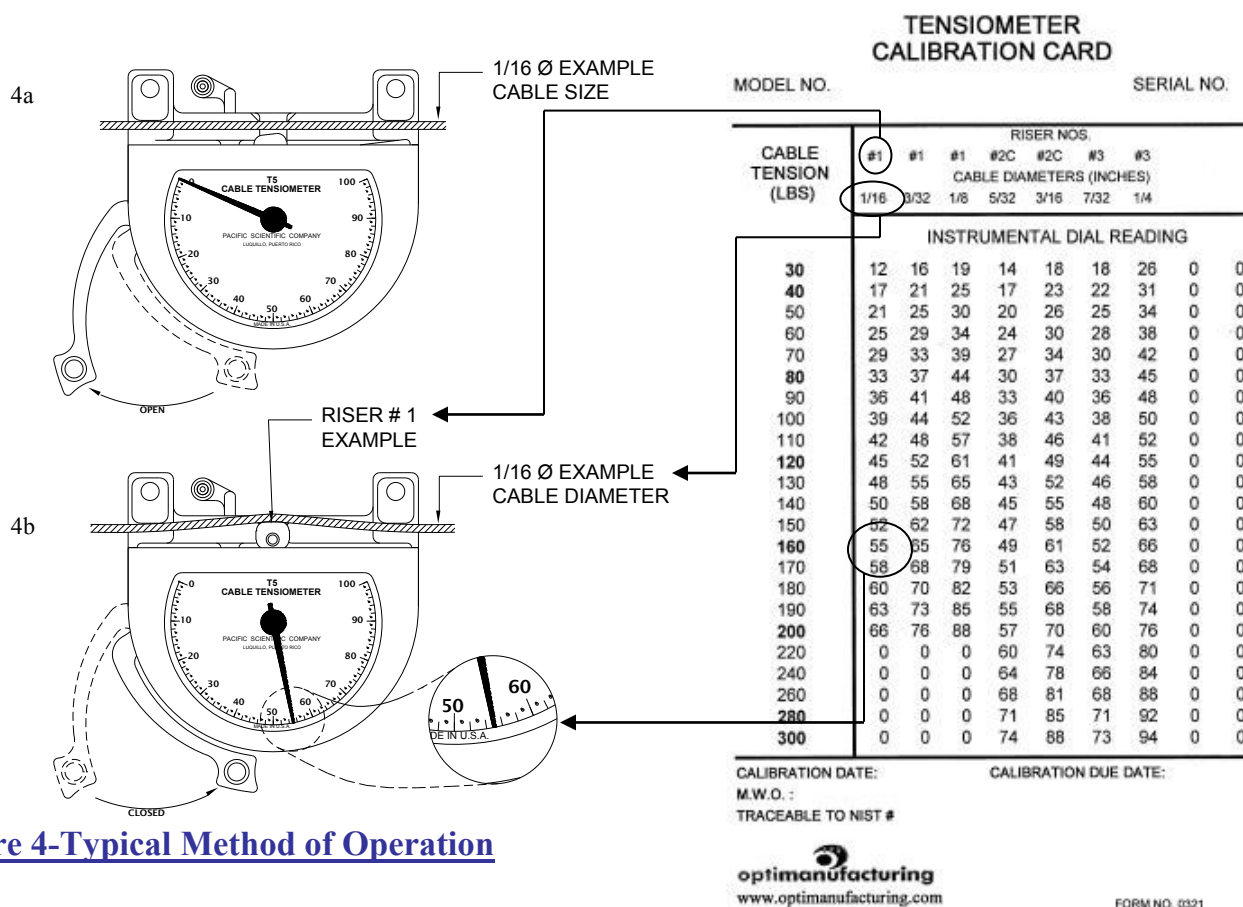

Figure 4-Typical Method of Operation
- 3-1. **PREPARATION FOR USE-** *It is vital to have the correct riser mounted on the instrument.* Refer to Table 4 to determine the correct riser required for the size cable to be tested. Selection of the wrong riser will give incorrect readings and may damage the Tensiometer. This information is given on the calibration card for each model (See Figure 4). *Each calibration card is prepared for a specific Tensiometer.* The serial number, noted near the upper right corner of the calibration card, must match the serial number noted on the nameplate of the Tensiometer. The use of non-matched sets will give incorrect readings and render the Tensiometer out of calibration. The *brake rod* must also be checked to see that it is in the **unlocked** position before clamping the instrument on the cable. For avoid damage on common use, the operator shall be use the Wrist Band adjustable (54 on fig. 9).
- f. Convert the dial reading to tension in pounds by referring to the calibration chart. A typical conversion is shown in Figure 4, where a dial reading of 55 points with the instrument testing a 1/16 inch cable and Riser #1 is converted to 160 pounds tension by referring to the calibration chart. (See Figure 4).